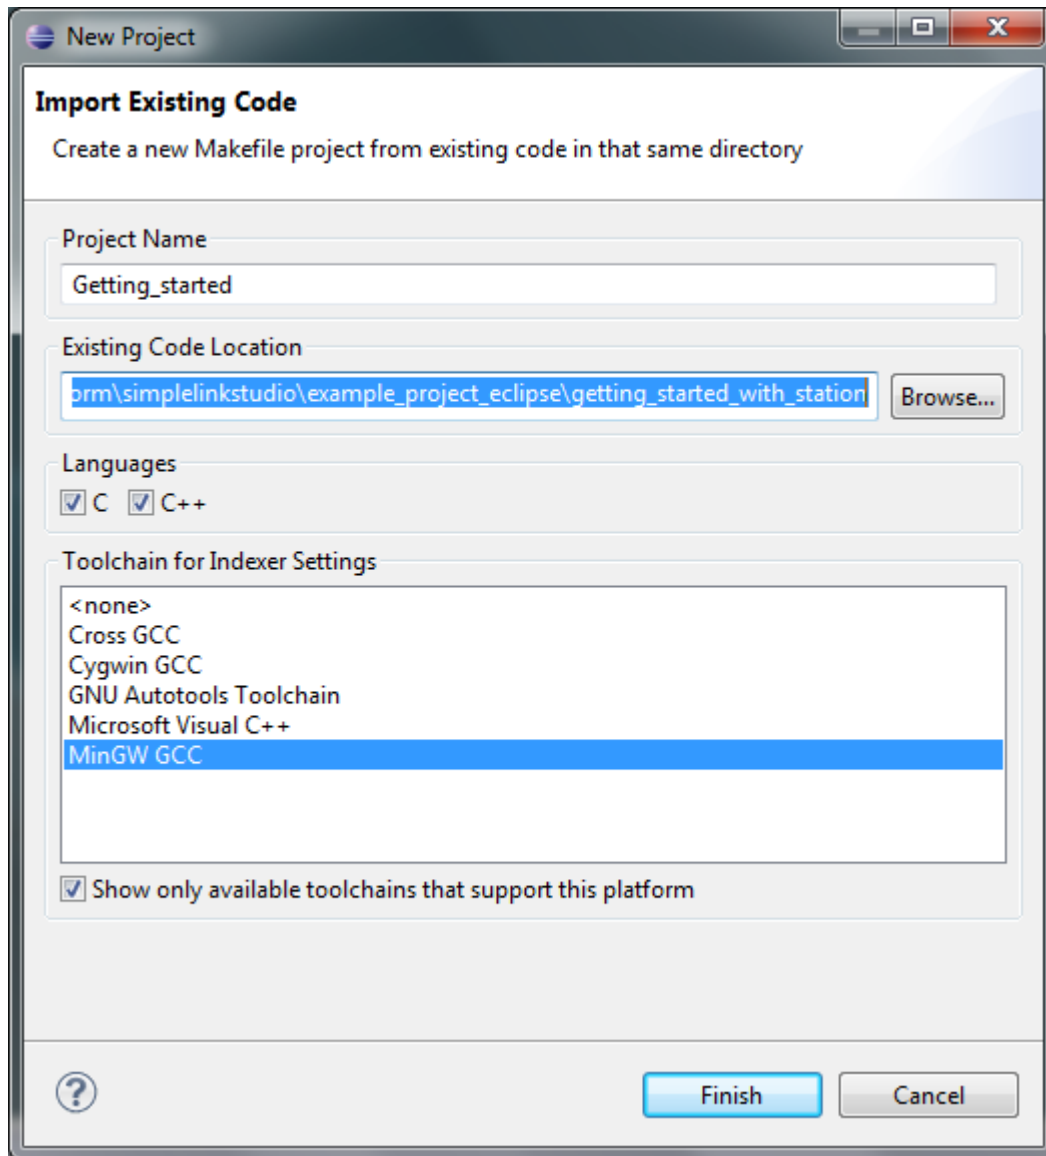

Figure 10. Import Existing Code
10. For Toolchain for Indexer Settings, choose “MinGW GCC” as shown in Figure 10.